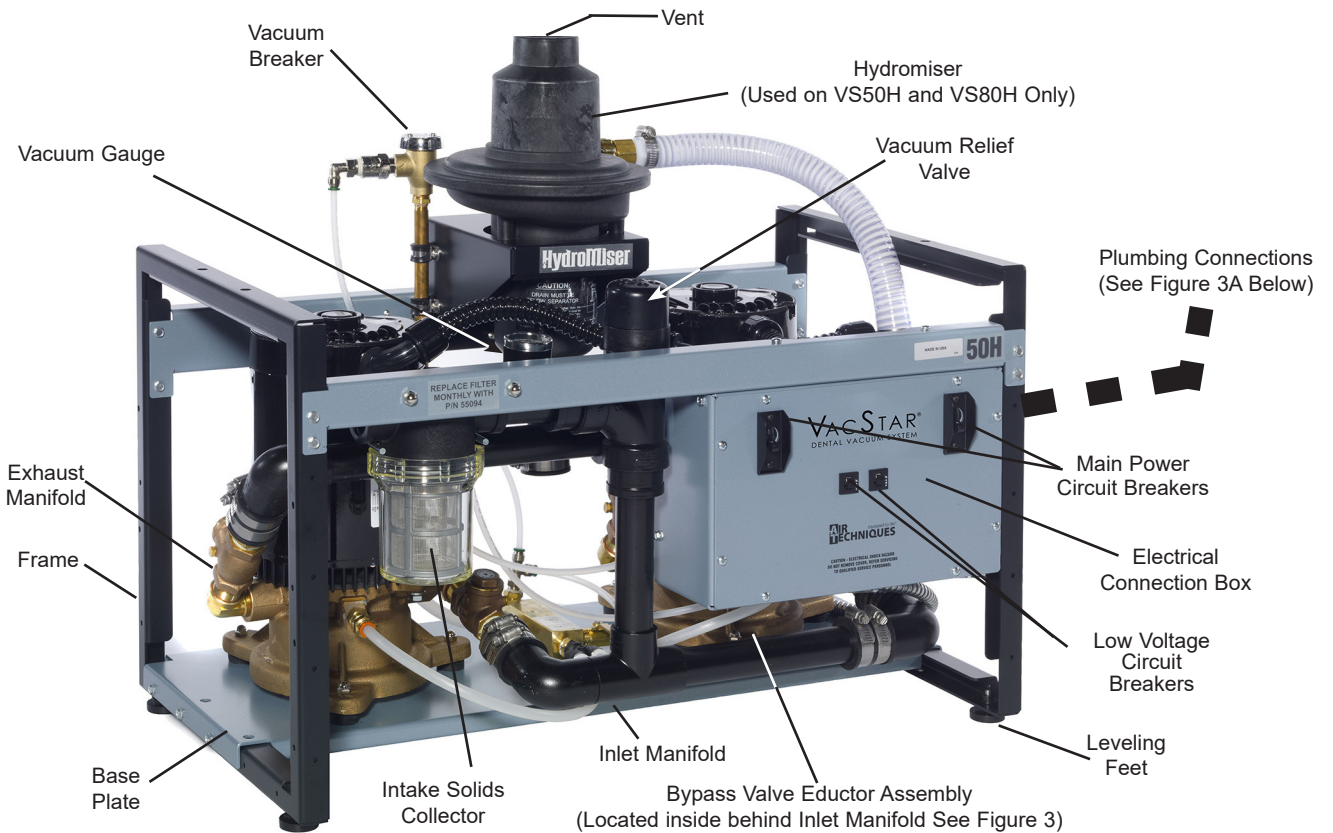

Figure 2. VacStar 50, 50H, 80 and 80H Parts Location
- For VacStar twin pump units, suction hose is connected at suction intake, found on intake solids collector assembly. See Fig. 2.